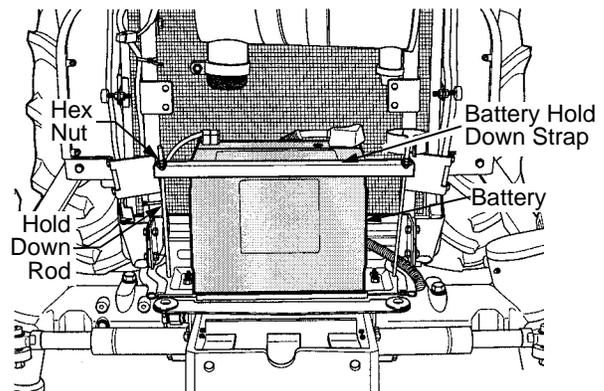

Figure 75
- Remove the two nuts and the battery hold-down strap from the battery hold-down rods. See Figure 75.